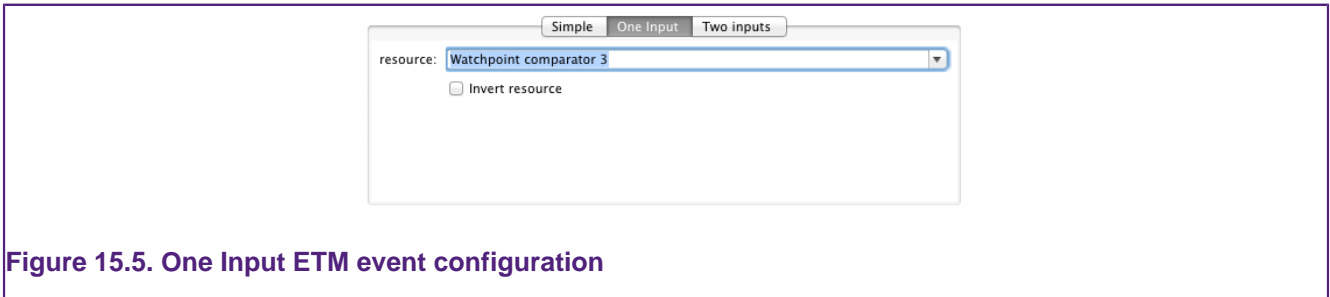

Figure 15.5. One Input ETM event configuration
- To use a single event resource select the **One Input** tab. An event resource can be chosen from the drop-down and the event will be true when the event resource is true. Checking the **Invert resource** box will cause the Event to be true when the event resource is false, and visa-versa. See Figure 15.5.